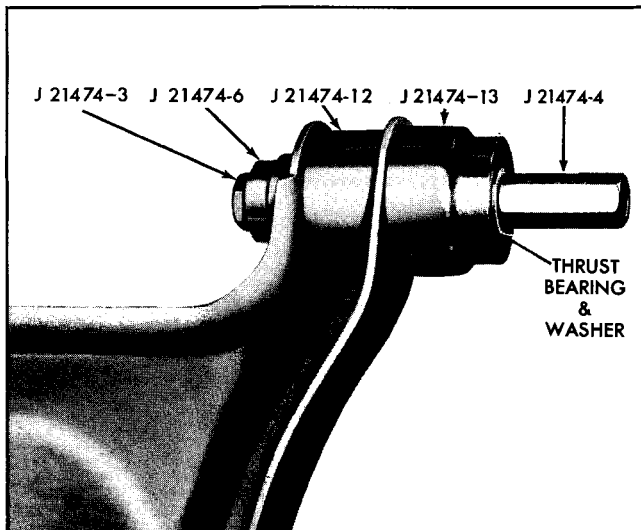

Fig. 3-28 Removing Lower Control Arm Front Bushing (G, A and X Series)
2. Remove bushing from control arm by arranging tools as shown in Fig. 3-28.